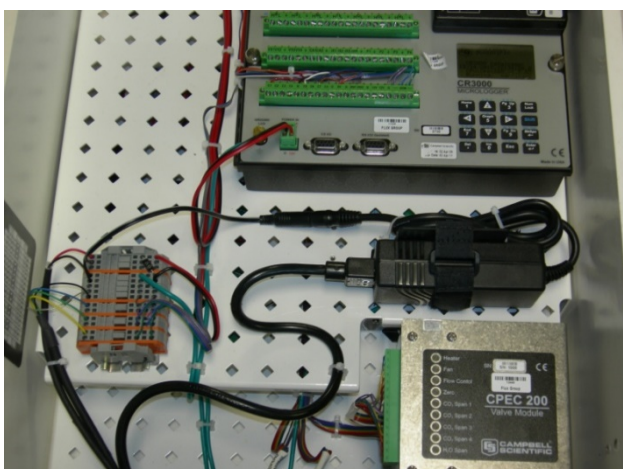

FIGURE F-5. Powered supply in CPEC200 enclosure
7. Plug in the 12 V connector as configured in FIGURE F-5.